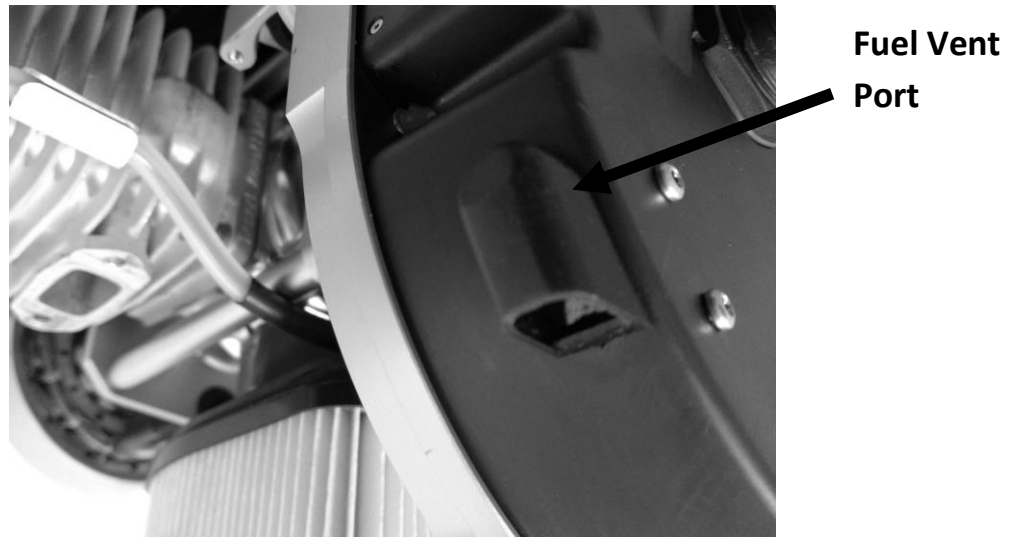

Figure 7. GenPod® Fuel Venting
2. Prime your system for the first time by pressing and holding the fuel vent port when the Genpod® power is on (**Figure 7**). Cycle the battery power to the Genpod® in 5 second intervals until fuel is flowing from the vent port without air. You should not have to complete the priming process again unless the engine fuel system is allowed to run dry or has been disconnected for any reason.